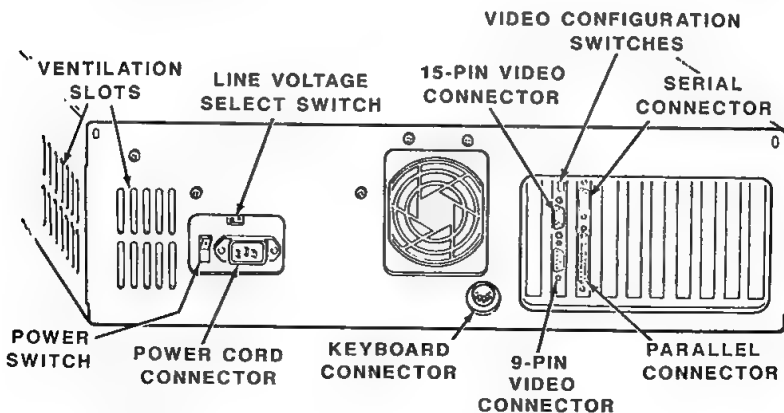

Figure 2-1. The Back Panel of the Computer
2. Position your computer so you have access to the back panel to check the switches and connect accessories. Allow six inches of unobstructed open space around the ventilation slots. Figure 2-1 shows the back panel of your computer and the ventilation slots.